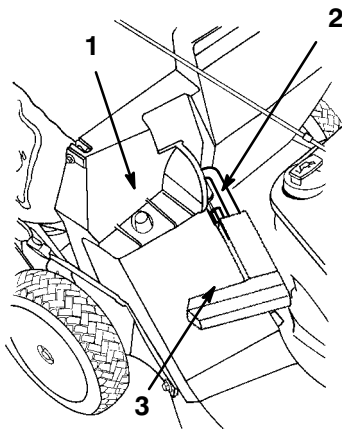
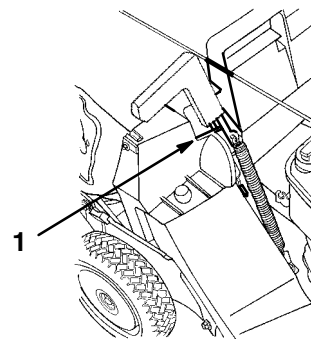

Figure 38
Figure 39
- Ensure that the discharge door handle is fully forward and the pin is engaged in the catch (Fig. 38).
- Slide the hole in the bag frame onto the retaining post on the discharge tunnel (Fig. 38).
- Open the discharge door by pulling the discharge door handle forward until the pin clears the ramp on the bag door and moving the handle rearward until the pin locks in the bag notch (Fig. 39).
- Pull the discharge door handle up and out of the bag notch (Fig. 39) and pull it forward until it engages the catch (Fig. 38).